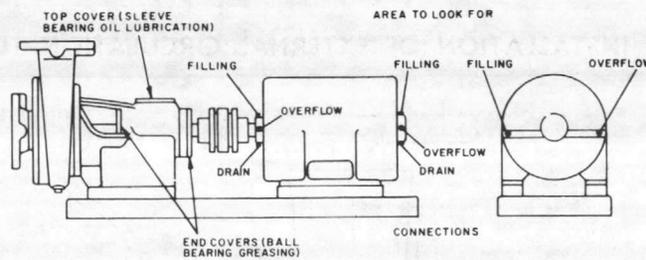

Fig. 5—Lubrication Points
**Sleeve Bearing** pumps are filled with oil at the factory but some oil might be lost during shipment. As a matter of precaution, check oil level before starting up pump. Proper level is at the center of the sight glass. If oil level is too low, remove top cover (Fig. 5) and refill.
To grease bearings open side covers (Fig. 5), slide